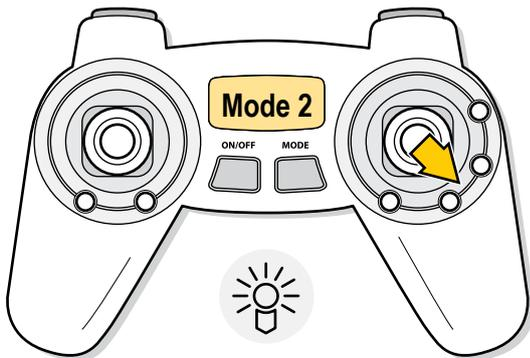

Fig. 25
- > MODE 2: Move the AILERON/ELEVATOR stick diagonally into the right bottom corner (see [Fig. 25]). The LED's turn on or off, depending on their state.